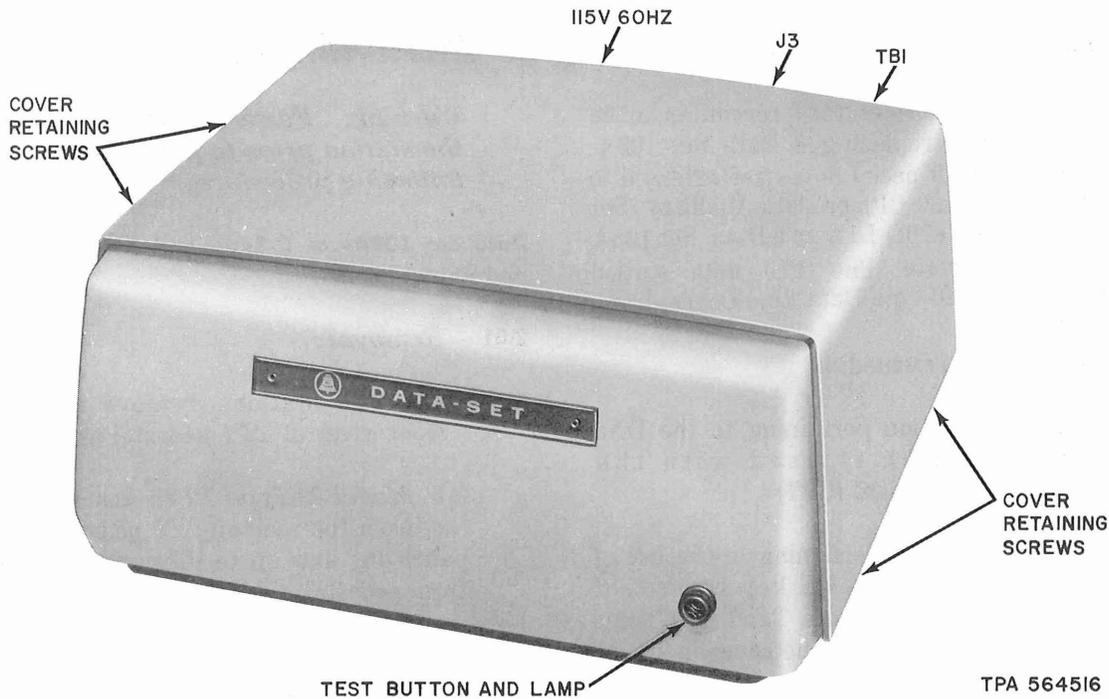

Fig. 1—Data Auxiliary Set 820D-L1
- (1) At TTY stations, remove rear panel or front cover of TTY pedestal as follows.
- (2) At CPT stations, loosen but do not remove the four cover retaining screws (see Fig. 1) and carefully lift up to remove the DAS cover.
- (3) Remove locking strip (if provided) by loosening the two screws and sliding it to the left. Disengage the locking strip from the screws and then slide it to the right to remove it from the apparatus mounting.
- (4) Grasp extracting handle on faceplate of data set or circuit pack to be removed and pull straight forward.